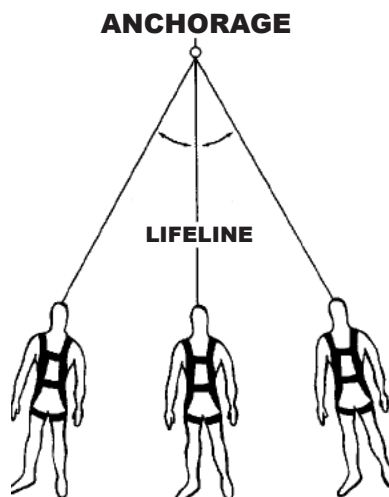

Figure 5h
- d. For a vertical entry, maintain the swing angle at less than 30 degrees while working. The entrant can be seriously injured if the swing angle exceeds 30 degrees. See Figure 5h.